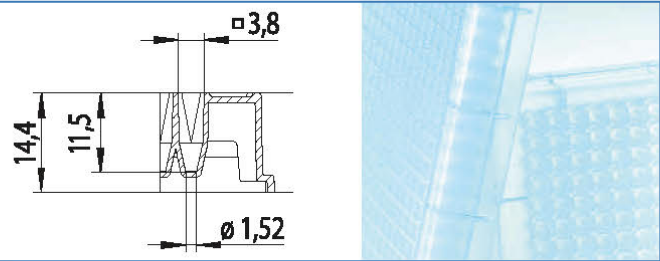

Figure 1: Well profile: 384 Deep Well Small Volume™
- Large working volume from 1 µl to 90 µl (Fig. 1)